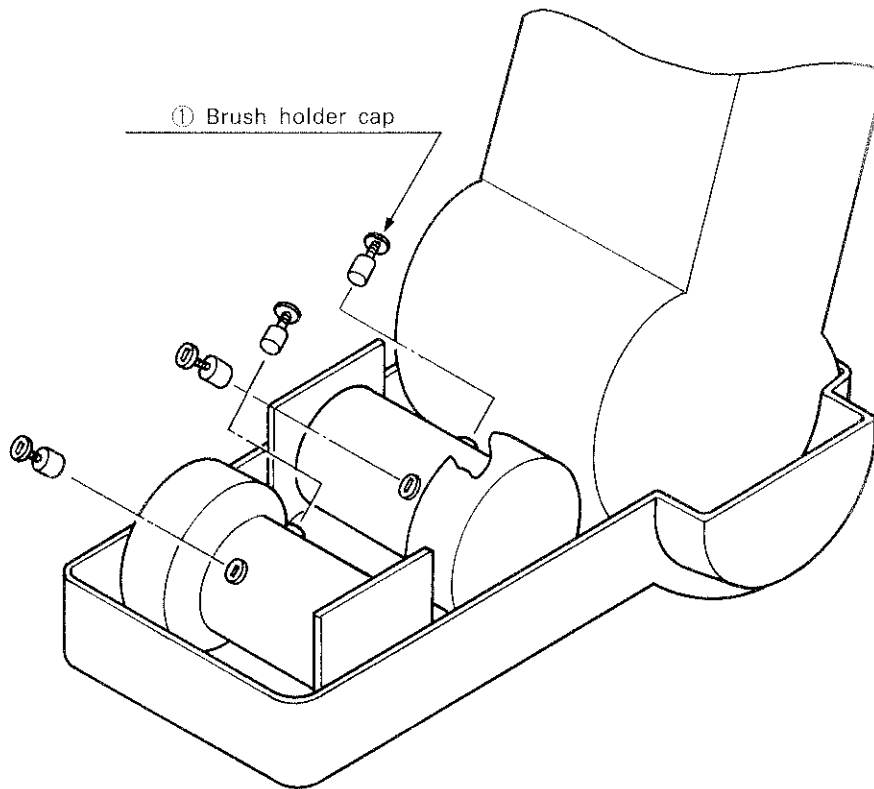

Fig: 4.3.5 Checking and Replacing the Shoulder/Elbow Drive Motor Brushes
- (1) Fig. 4.3.5 outlines the inspection and replacement procedures of the shoulder and elbow drive motor brushes.
- (2) Remove the upper shoulder cover by referring to 3.2 Removal of the Covers.
- (3) Following steps (3) to (6), A. Inspection, given under 3.3.1 Checking and replacing the waist drive motor brushes, check the brushes.